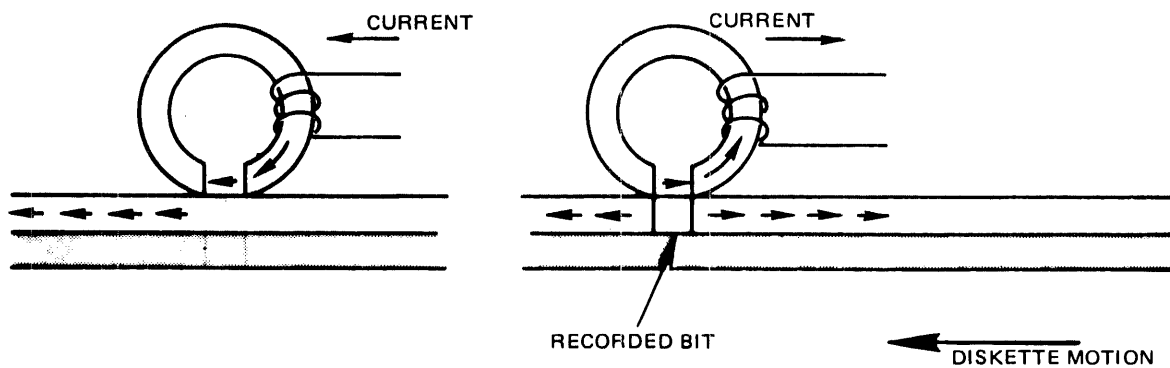

FIGURE 20. RECORDED BIT
**7.3** The drive writes 2 frequencies 1F 62.5 KHz and 2F 125 KHz. During a write operation, a bit is recorded when the flux direction in the ring is reversed by rapidly reversing the current in the coil. The fringe flux is reversed in the gap and hence the portion of the flux flowing through the oxide recording surface is reversed. If the flux reversal is instantaneous in comparison to the motion of the diskette, it can be seen that the portion of the diskette surface that just passed under the gap is magnetized in one direction while the portion under the gap is magnetized in the opposite direction. This flux reversal represents a bit. See Figure 20.